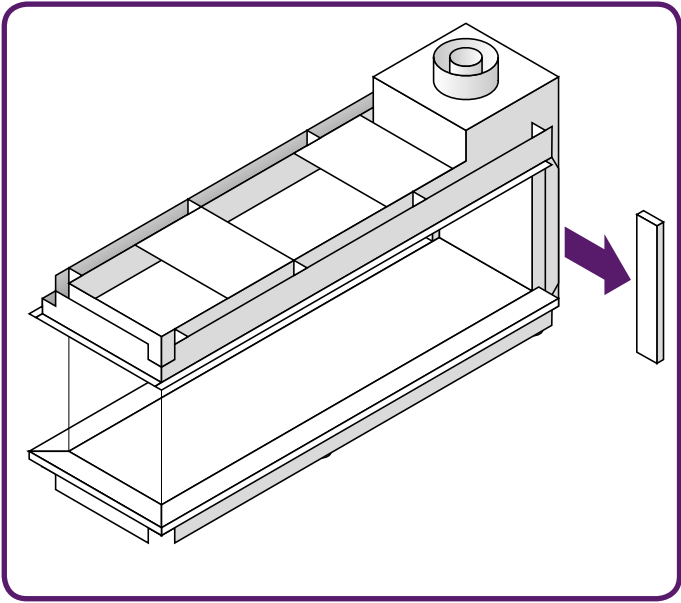

Figure 10.9 - Remove side trims
- Remove both the side trims and bottom trim. They are held by magnet snappers, **Figure 10.9 & 10.10**.